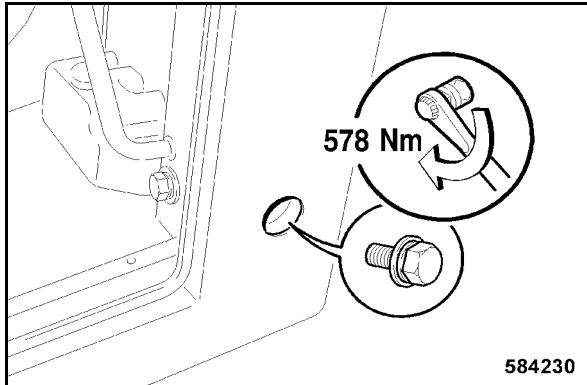

Fig. 215
- Tighten the rear lateral fastening screw on the left hand side with 578 Nm (Fig. 215).